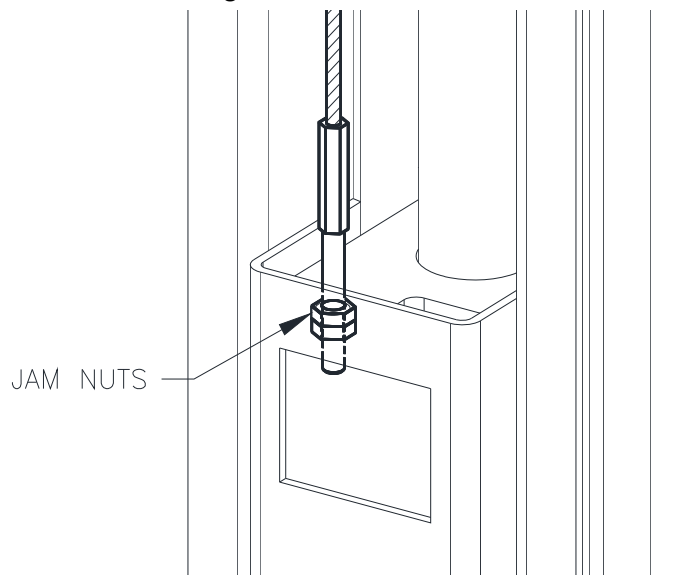

Fig 12c - Carriage Connection
- 27) Route other end of cable up and over sheave in Overhead. Follow across to sheave on opposite Column. Route cable down through Column to top mounting plate in Carriage. Attach cable to Carriage top plate as seen in **Fig 12c** with (2) hex jam nuts. Repeat for opposite side.